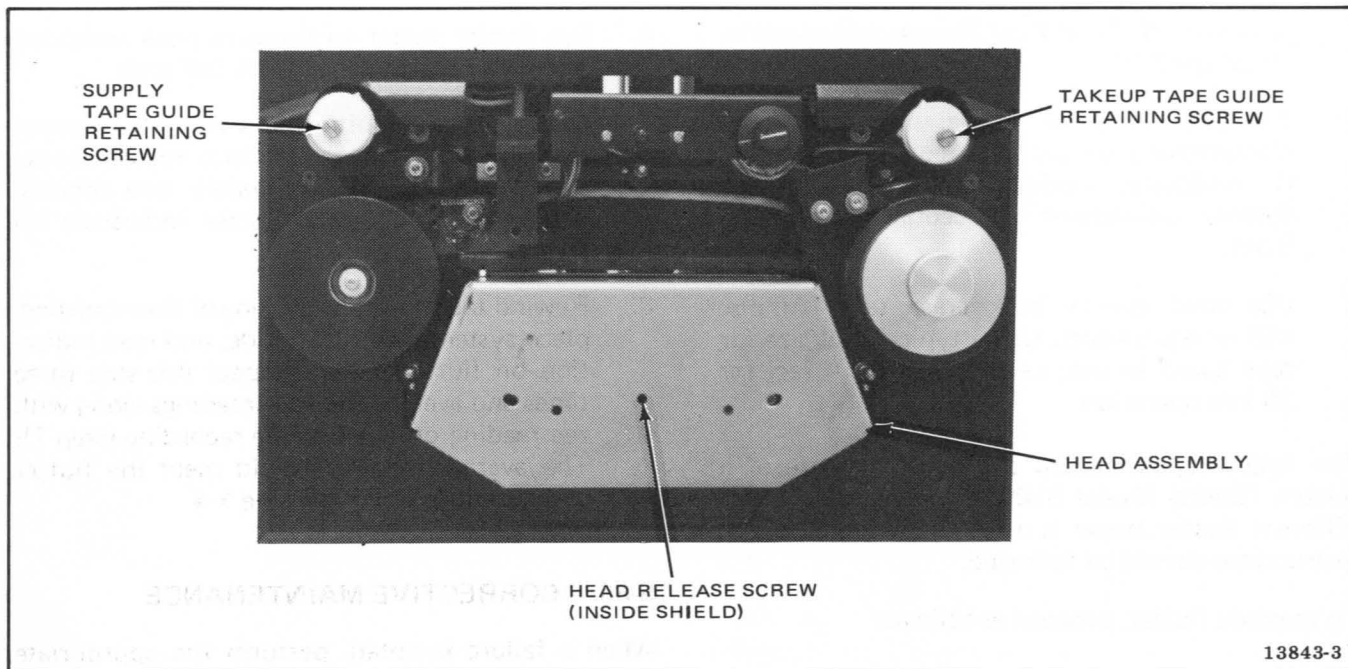

Figure 5-36. Head Assembly and Tape Guides
3. Insert Allen wrench through center hole in head shield (Figure 5-36) and turn spring-loaded screw 1/4-turn clockwise to release head assembly.
- b. Insert Allen wrench through center hole in head shield (Figure 5-36) and turn spring-loaded screw 1/4-turn clockwise to release head assembly.